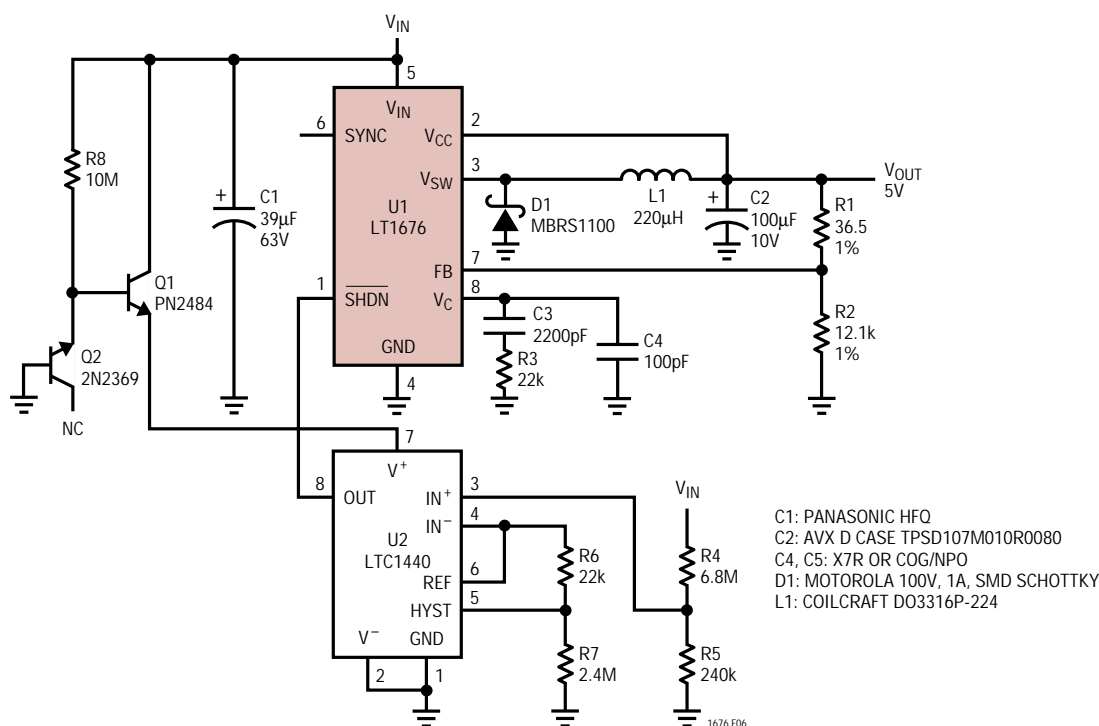

Figure 6. Micropower Undervoltage Lockout
Certain applications may require very low current drain when in undervoltage lockout mode. This can be accomplished with the addition of a few more external components. Figure 6 shows an LTC®1440 micropower comparator/reference added to control the LT1676 via its SHDN pin. The extremely low input bias current of the CMOS comparator allows the impedance of the resistor divider R4/R5 to be increased, thereby minimizing power drain. Hysteresis is externally programmable via resistor divider R6/R7. The LTC1440 output directly controls the LT1676 via its shutdown pin, driving it to either 5V (ON) or 0V (Full Shutdown). A simple linear voltage regulator to power the LTC1440 is provided by Q1, Q2 and R7. Just below the UVLO threshold, nominally 43V, total current drain is typically 50 $\mu$ A.